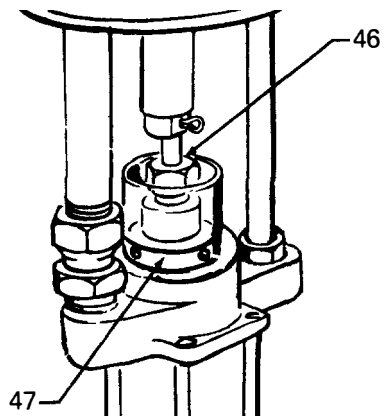

Fig 2
When operating the pump non-immersed, keep the wet cup (47) filled with Graco Throat Seal Liquid (TSL). See Fig 2.